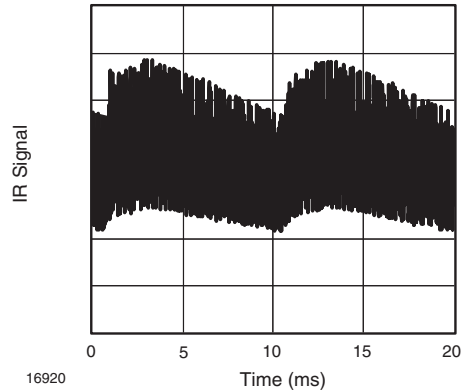
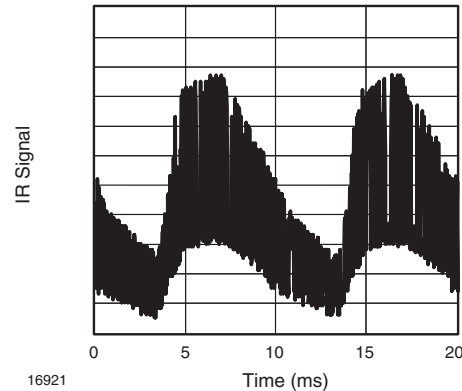

Fig. 12 - IR Signal from Fluorescent Lamp with Low Modulation
Fig. 13 - IR Signal from Fluorescent Lamp with High Modulation
- Strongly or weakly modulated noise from fluorescent lamps with electronic ballasts (see figure 12 or figure 13)